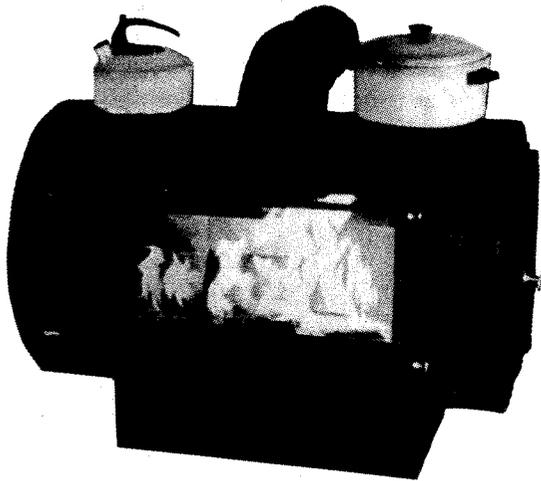

Fig. 42. Fire-View freestanding fireplace/stove.
9. **Fire-View Distributors** (distributor), P.O. Box 370, Rogue River, OR 97537. The tubular design of the Fire-View (Fig. 42 and Table 5) helps prevent warpage, and a tempered-glass window allows a complete view of the fire. Behind the glass, a collapsible steel door may be closed to bank the fire for the night. Combustion air is supplied through a draft tube at the